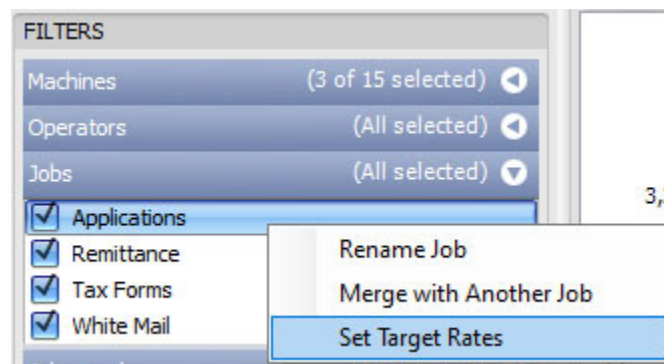

Figure 5-24: Applications pop-up window
5. Right-click **Applications** (Figure 5-24).